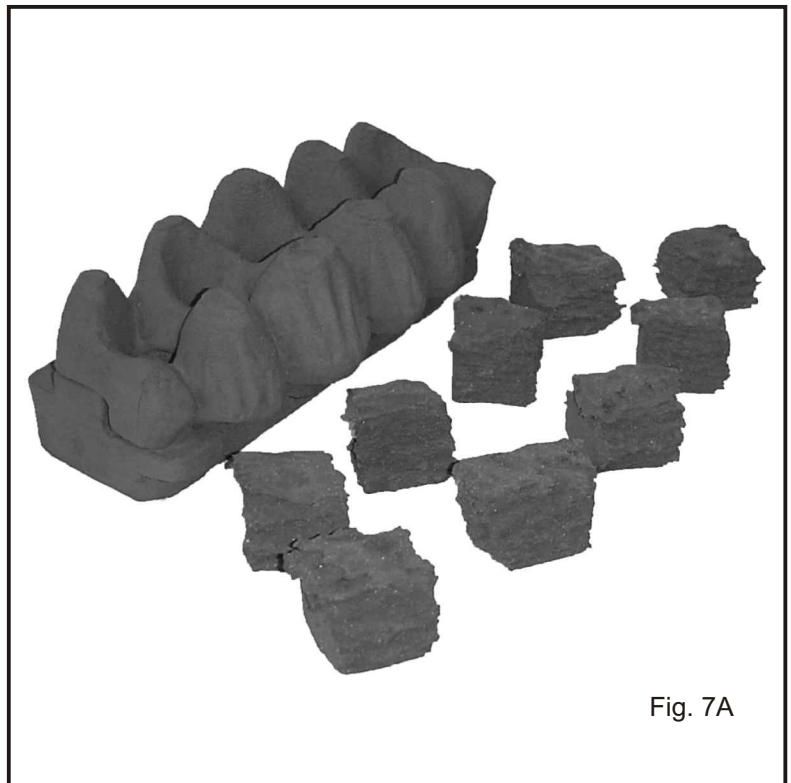
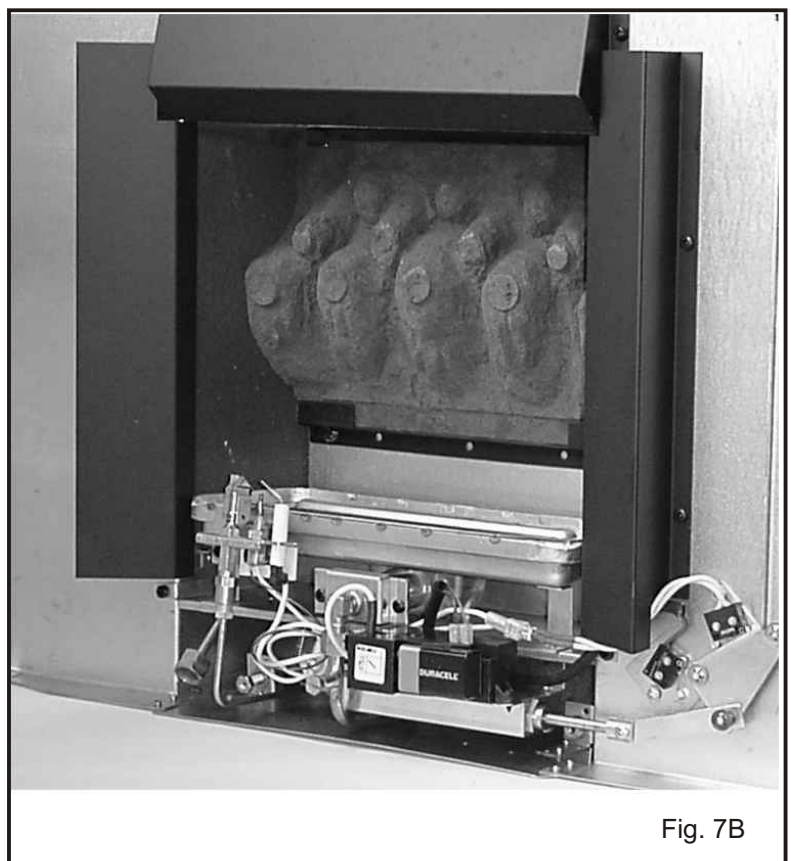

Fig. 7A
Fig. 7B
The Coal Bed and the loose coals are illustrated in Fig. 7A. The fire is supplied with the rear coal and side cheeks already fitted as illustrated in Fig. 7B.
2. Notice that there are five depressions at the front of the coal bed and four depressions at the rear (as shown in Fig. 7A). Place five loose coals in the front recesses with their decorative faces forward. Similarly place the remaining four loose coals on top of the recesses formed by the front loose coals and touching the rear coal (Fig. 7D). Ensure that the loose coals are stable and not likely to fall off.